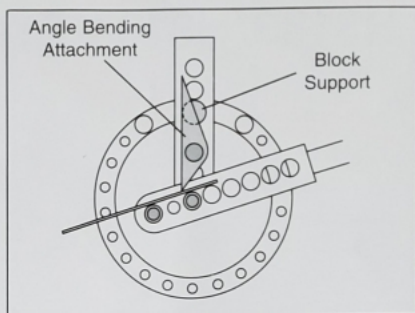

Figure 6. Basic angle bending setup.
1. Mount the block support and angle bending attachment onto the bending bracket as shown in **Figure 6**.
3. Based on the position of the angle bending attachment and workpiece thickness, select two dies that will brace the workpiece properly against the angle bending attachment, and install them as shown in **Figure 6**. For most bending tasks, the 1½" dies are appropriate.
Note: *The center pin and die must be mounted at least through the third handle hole, as shown in **Figure 6**, for any bending procedure to be successful. If the center pin is placed in the first or second holes, you will not be able to get enough leverage to properly bend the workpiece.*